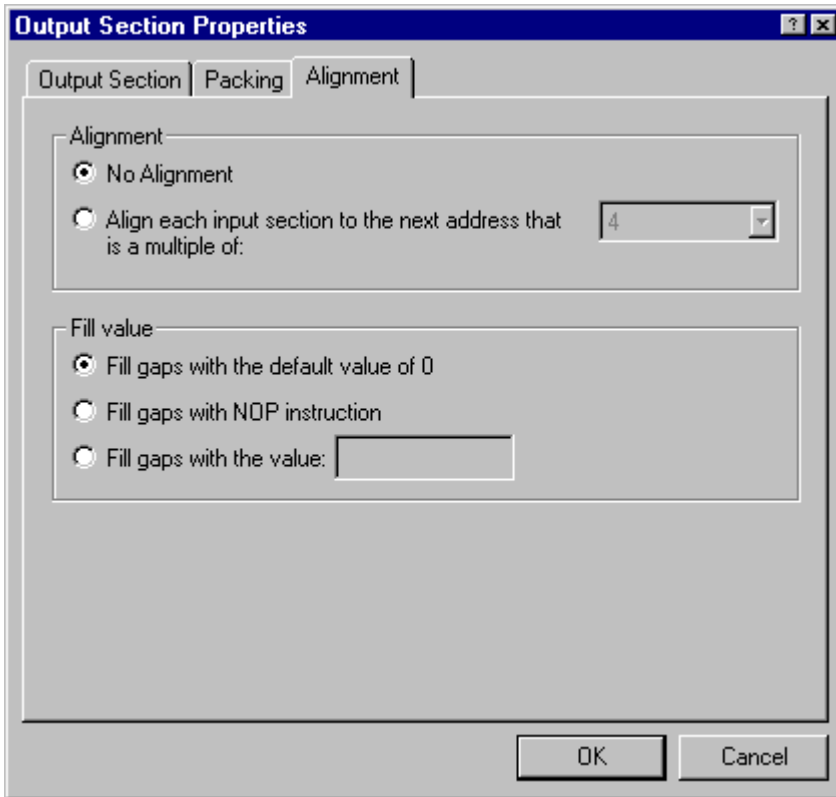

Figure 4-51. Output Section Properties – Alignment Tab
3. Click the **Alignment** tab (Figure 4-51).